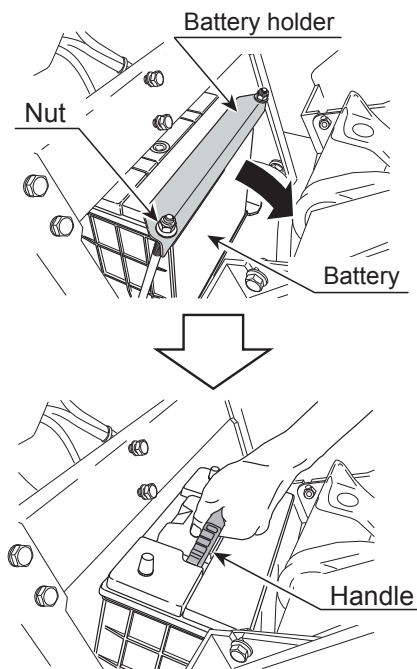

Figure 35. Removing Battery
4. Take off the nuts and remove the battery holder (Figure 35).
6. Pull up the handle on the top of the battery to remove the battery from the machine (Figure 35). Make sure that the battery terminals do not touch the frame.